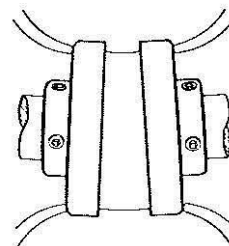

Fig. 6
- b. Check angular misalignment by using a micrometer or micrometer calipers to measure the gap between the two flanges (see Fig. 6). Measure this gap at intervals around the periphery of the coupling to determine the minimum and maximum gap. The differences in these two values should not exceed the values given in Fig. 7 and should be as close to zero as possible. If the angular misalignment was adjusted, go back and recheck the parallel alignment.